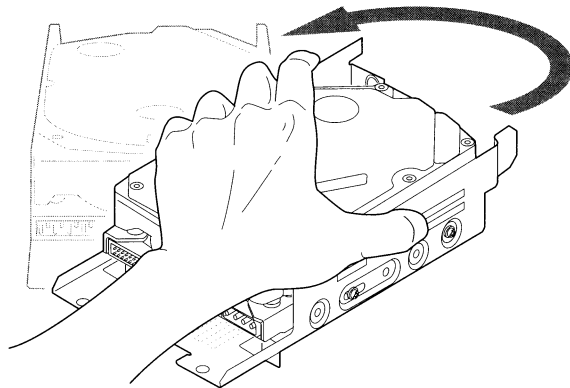

Figure 6 Rotating a Faulty Hard Drive
2. FIGURE 6. Hold the hard drive tightly with the circuit board facing down (to avoid ESD damage, don't touch the circuit board). With one quick, sharp motion, rotate the drive counterclockwise. This action should allow the hard drive to start up.